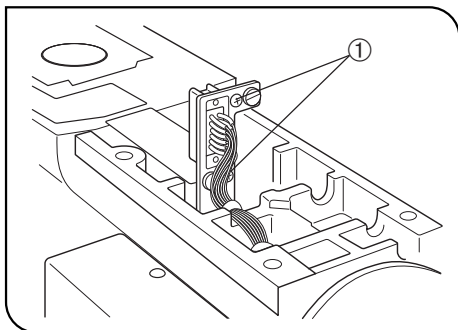

Fig. 14
**Preparation for Mounting the Motorized Revolving Nosepiece (Fig. 14)**